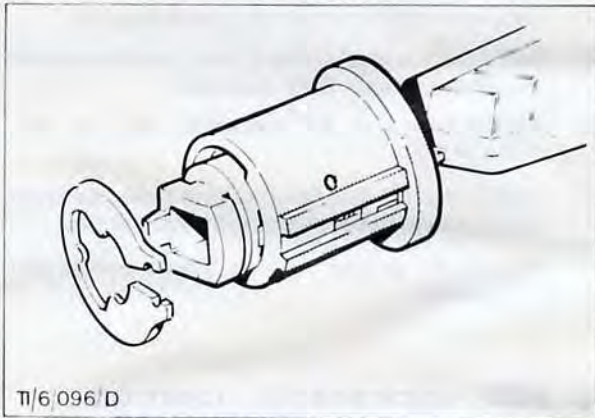

Fig. 79. Fitting retaining circlip
11. Turn key to accessory ('I') position, and fit retaining circlip. The open 'jaws' of circlip must align with keyway register on cylinder, see Fig. 79.